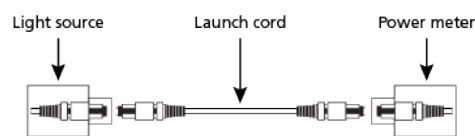

Figure 5. Set the reference
1. Set a reference between the light source and power meter using the launch cord (see Figure 5).